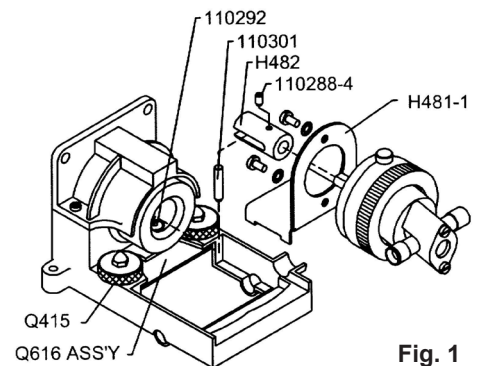

Fig. 1
6. ADAPTING RH PUMP HEADS TO STANDARD Q PUMP DRIVE MODULES. (refer to Figs. 1,7c) The RH/Q Kit adapts the RH pump heads to standard Q Pump Drive Modules. Assemble as follows:
a) Assemble Kit parts to RH pump head as shown (Fig. 1) with "shoe" of part H481-1 down. Slip COUPLING H482 fully onto pump shaft, with its slot away from pump head and SET SCREW 110288-4 contacting the flat on the pump shaft.